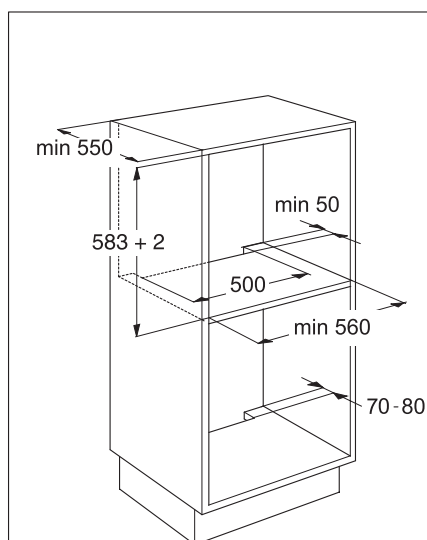

Fig. 2
- Ovens that are not equipped with a cooling system cannot be installed in split level units (fig 2).